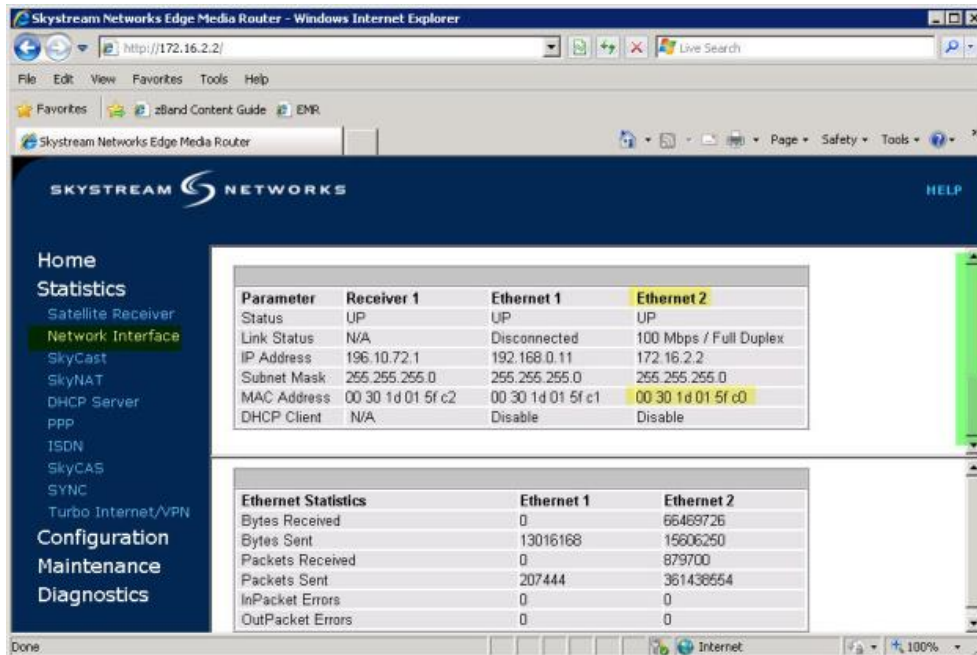

Figure 37
- Confirm that the Input source is selected as SAT (for satellite feed) as shown in **Figure 37** in Appendix 3. Also ensure that the Primary Input is configured as SAT.